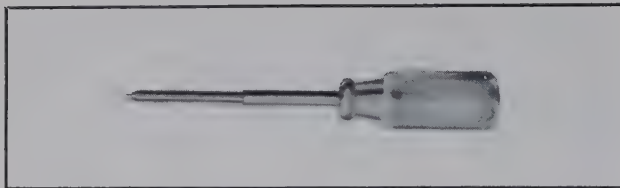
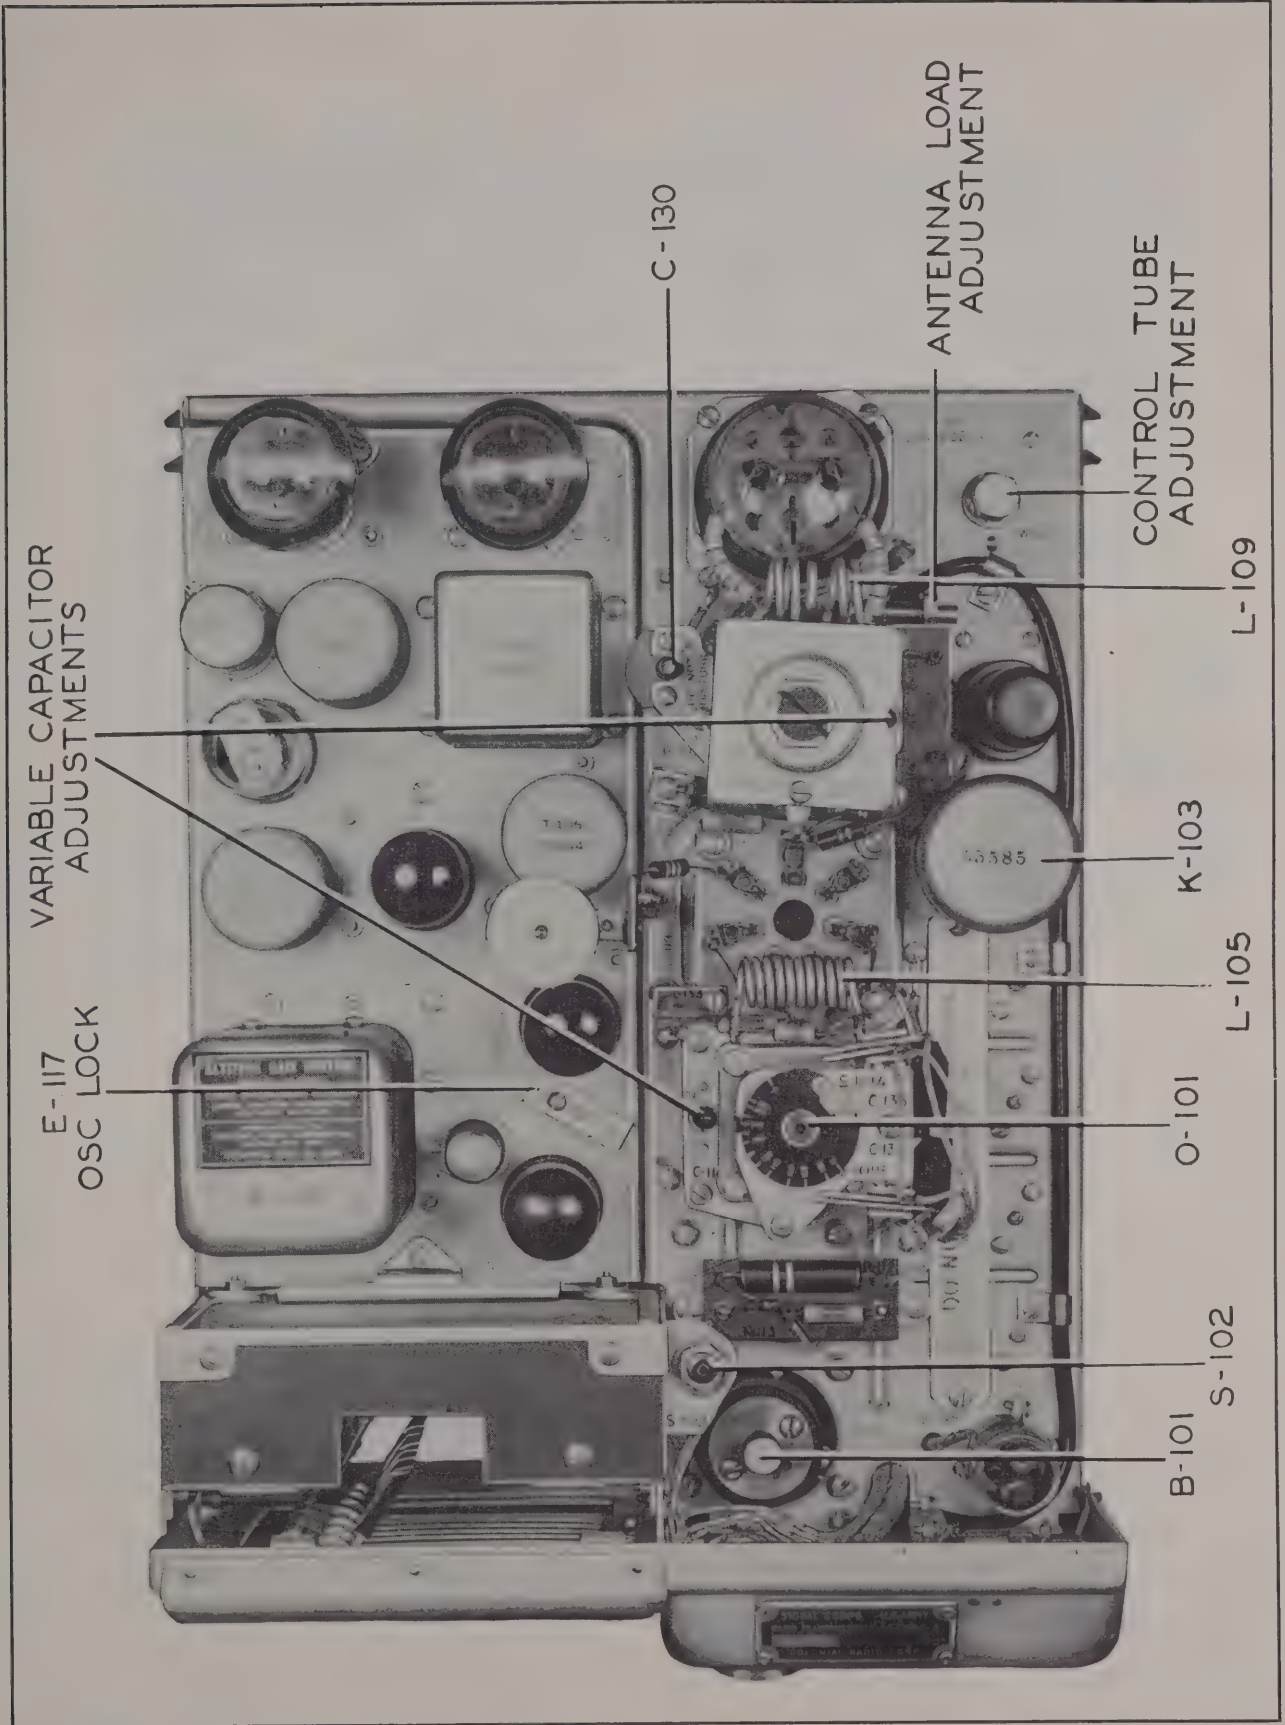
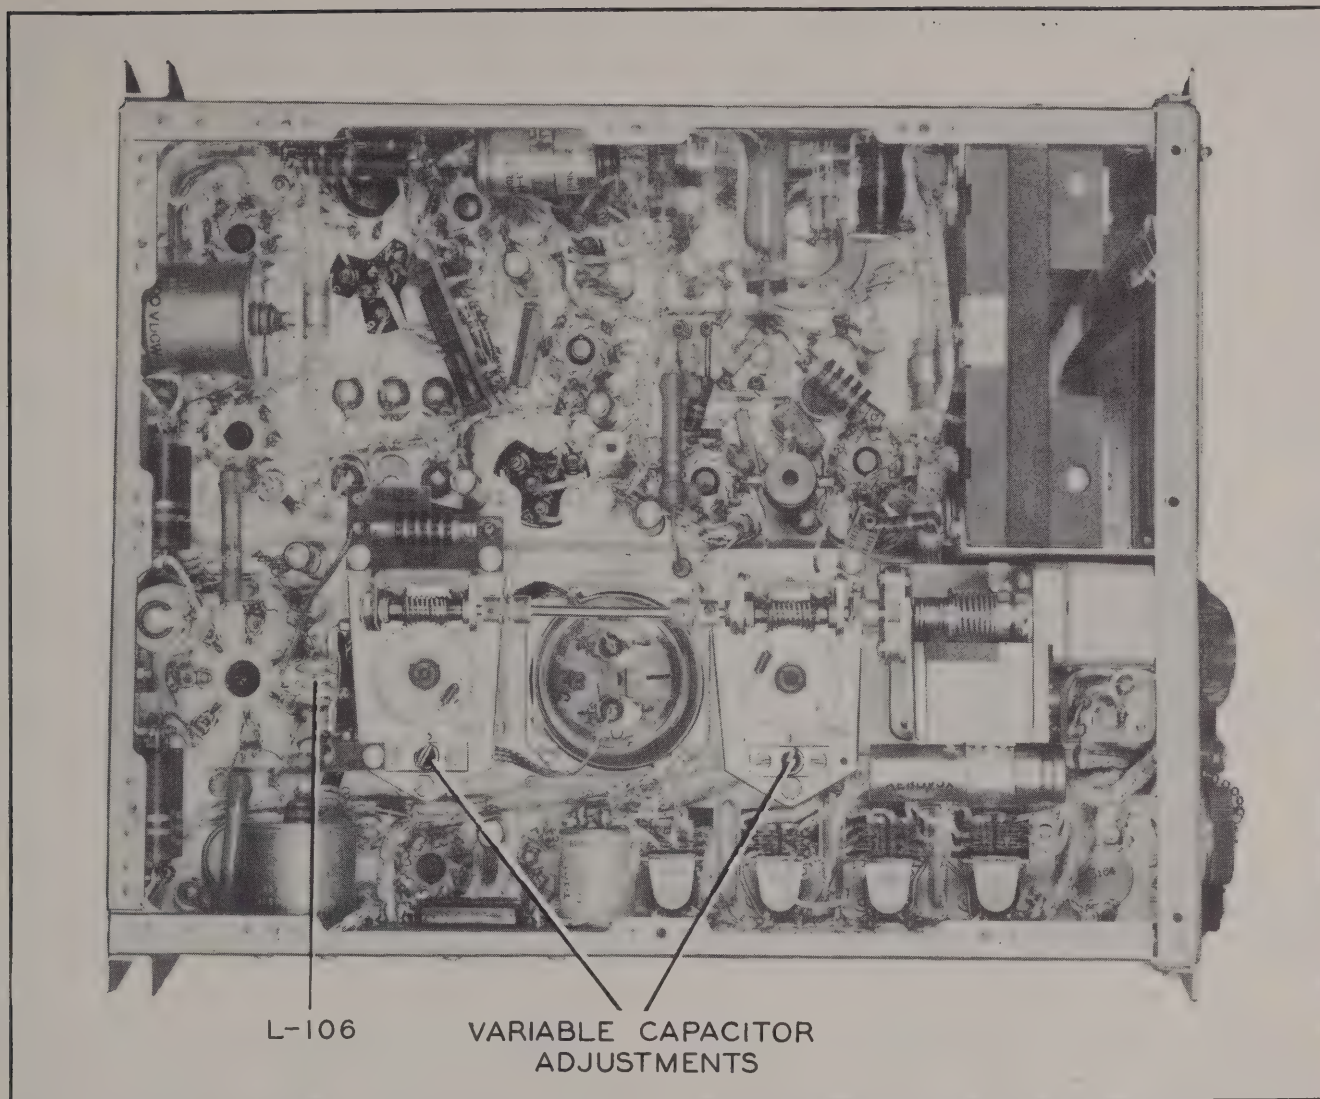

Figure 1-11. Alignment Tool MX-174/ARM-1
Figure 2-3. Radio Transmitter T-67/ARC-3 — Top View Showing Points of Adjustment
Figure 2-4. Radio Transmitter T-67/ARC-3 — Bottom View Showing Points of Adjustment
k. ALIGNMENT TOOL MX-174/ARM-1. — The alignment tool is an insulated screw driver with a yellow plastic handle. It is designed to reduce body capacity to a minimum when aligning Radio Set AN/ARC-3. (See fig. 1-11.)
(1) Interconnect Radio Test Set AN/ARM-1 and the radio transmitter as outlined in paragraph 1c, this section.
(2) Insert the plug of a microphone, with a push-to-talk switch, in the “MIC” jack on Control Box C-118/ARC-3 of the radio test set.
(3) Insert the plug of Test Unit TS-178/ARM-1 in the receptacle marked “PL-152” on the front panel of the radio transmitter.
(4) Attach Phantom Transmitter Antenna TS-78/U (A-85-A) to the “ANTENNA” receptacle on the front panel of the radio transmitter.
(5) Open the crystal compartment door on the radio transmitter and insert a Crystal Unit CR-1A/AR in sockets “A,” “B” and “C.”
(6) If the top cover of the radio transmitter has been removed, screw the cap MX-506/ARM-1 over the motor control switch S-102, located on a bracket near the tuning motor. (See fig. 2-3.)
(1) Depress the channel “A,” “B” or “C” push buttons of Control Box C-118/ARC-3. Allow the equipment to warm up until the motor stops.
(2) Turn the selector switch on Test Unit TS-178/ARM-1 to “A+.” With the switch in this position the meter reads 50 volts full scale. Since the input voltage is 28 volts, the correct meter reading is 56.
(3) Press the microphone push-to-talk button. Turn the selector switch to “B+.” In this position the meter reads 500 volts full scale. Since the “B” voltage is approximately 400 volts, the correct meter reading is 80.
(4) Open the crystal compartment door and remove the crystal from channel “A.” Insert Radio Test Set AN/ARM-1 crystal unit marked 8458.823 kc. Then close the crystal compartment door and push the red channel-selector push button marked “A” on the control box. This operation will tune the equipment to 152 megacycles.
(5) Press the microphone push-to-talk button. Then turn the selector switch on Test Unit TS-178/ARM-1 to position “OSC.” The meter reading should be between “20” and “70.”
(6) Press the microphone push-to-talk button. Then turn the selector switch of the test unit to position “1.” The meter reading should be between “25” and “90.”
(7) Press the microphone push-to-talk button. Then turn the selector switch of the test unit to position “2.” The meter reading should be not less than 25. Slowly insert each end (not simultaneously) of Tuning Wand MX-173/ARM-1 into 2nd harmonic generator grid coil L-105. (See fig. 2-3.) The maximum meter reading should be not more than twice the reading obtained without using the tuning wand.
(8) Press the microphone push-to-talk button. Then turn the selector switch of the test unit to position “3.” The meter reading should be not less than 25. Slowly and separately insert each end of Tuning Wand MX-173/ARM-1 into the 2nd har-
monic generator plate coil L-106. (See fig. 2-4.) The maximum meter reading should be not more than twice the reading obtained without using the wand.
(9) Press the microphone push-to-talk button. Then turn the selector switch of the test unit to position "4 TRANS" and observe the meter reading. Slowly and separately insert each end of Tuning Wand MX-173/ARM-1 into the power amplifier coil L-109. (See fig. 2-3.) The minimum meter reading should be not more than eight below the original reading.
(a) Depress channel-selector push button "A" on Control Box C-118/ARC-3 and hold down the motor control switch S-102 until the tuning motor stops. (See fig. 2-3.) If dial 0-101, located on top of the variable capacitor, does not stop at
(b) Turn the selector switch of the test unit to position "1." Depress the channel-selector push button "B." Immediately thereafter, depress the channel-selector push button "A." Tune the radio transmitter for the maximum reading on the test unit meter, by turning the knurled knob on top of the tuning motor B-101. (See fig. 2-3.)
(c) Turn the selector switch of the test unit to position "2" and depress the push-to-talk button. Slowly insert each end of Tuning Wand MX-173/ARM-1, one end at a time, into the field of tank coil L-105 mounted on the top front variable capacitor. (See fig. 2-3.) If the meter reading increases by more than 5 divisions, adjust the green screw marked "2" for the maximum obtainable reading, using the insulated alignment screw driver. (See figs. 1-11, 2-3, and 2-5.)
(d) Turn selector switch of the test unit to position "3" and depress the push-to-talk button. Slowly insert each end of the tuning wand, one end at a time, into the field of the tank coil L-106 mounted on the bottom rear variable capacitor. (See fig. 2-4.) If the meter reading increases by more than 3 divisions, adjust the green screw marked "3" for the maximum obtainable reading. (See figs. 2-4 and 2-5.)
(f) Remove Phantom Transmitter Antenna TS-78-U (A-85-A) from the "ANTENNA" receptacle and turn the selector switch on the test unit to position "4 TRANS." Depress the push-to-talk button and slowly insert each end of the tuning wand, one end at a time, into the field of tank coil L-109 mounted on the top rear variable capacitor. (See fig. 2-3.) If the meter reading does not decrease more than four divisions, no further adjustment is necessary.
Do not disturb either the position of the antenna load adjustment screw (located between power amplifier tube JAN-832A (V-104) and the top rear variable capacitor) or the setting of capacitor C-130 located on the top rear variable capacitor. (See fig. 2-3.)
(1) Interconnect the radio test set and the radio transmitter as outlined in paragraph 1c, this section.
(2) Connect other equipment as outlined in paragraph 3a, this section, except that Cap MX-503/ARM-1 should not be installed.
(3) Open the crystal compartment door and remove all crystals from the set. Then insert the 100-megacycle test equipment crystal, marked "5555.555 kc" in channel "A," the 125-megacycle test equipment crystal, marked "6944.444 kc," in channel "F" and insert the 152 megacycle test equipment crystal, marked "8458.823 kc," in channel "G." Close the crystal compartment door.
(4) Depress the red channel-selector push button marked "G" (152 megacycles) located on the control box of the radio test set. Depress motor control switch S-102 until dial 0-101, located on top of the variable capacitor, approaches the 152 megacycle mark. Then, by turning the knurled knob on top of motor B-101, manually tune to the exact 152 megacycle mark on the dial. (See fig. 2-3.) If the knurled knob does not rotate the dial, depress any other channel push button and immediately re-push the channel "G" button. Tune manually once again. Allow Radio Transmitter T-67 ARC-3 to warm up for five minutes before proceeding with steps (5) through (14).
(5) Turn the selector switch on Test Unit TS-178 ARM-1 to the "OSC" position. The meter should read between 20 and 70.
(6) Turn the selector switch on the test unit to position "1" (1st harmonic grid). Using Alignment Tool MX-174 ARM-1 adjust the green screw, marked "1," located on the variable capacitor underneath the chassis nearest the front, for *maximum* reading on the meter (25 to 90). (See figs. 2-4 and 2-5.)
(7) Turn the selector switch on the test unit to position "2" (2nd harmonic grid). Adjust the green screw marked "2," located on the variable capacitor on top of the chassis nearest the front,